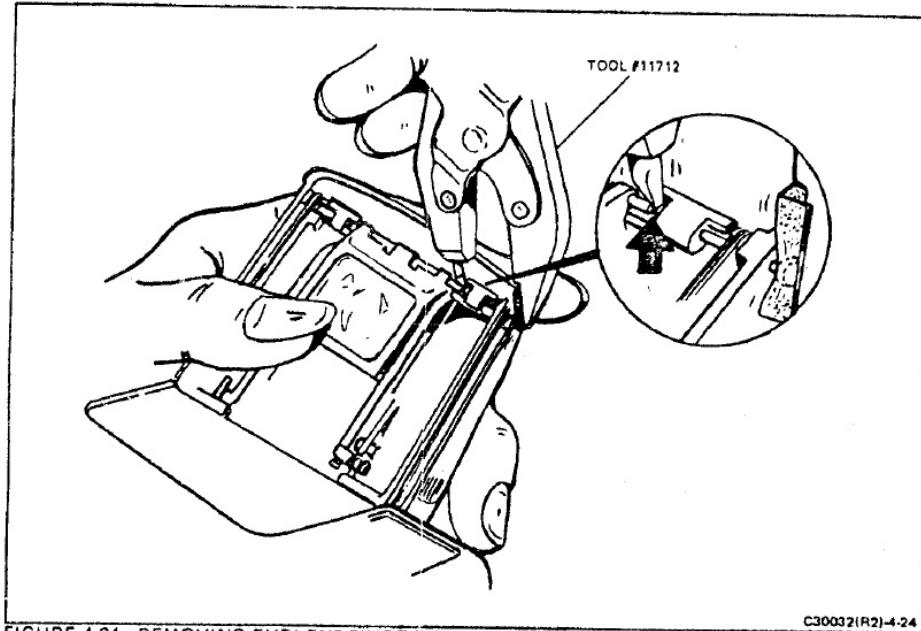

FIGURE 4-24 REMOVING EYELENS PIVOT PIN
b. Using Special Tool #11712 (Figure 4-24) press out either end of the three-piece pivot pin until the pin emerges far enough to allow the insertion of a jeweler's screwdriver underneath the head of the protruding pin. Pry the pin all the way out with the screwdriver.
- b. Using Special Tool #11712 (Figure 4-24) press out either end of the three-piece pivot pin until the pin emerges far enough to permit inserting a jeweler's screwdriver underneath the head of the protruding pin. Pry out the pin with the screwdriver.